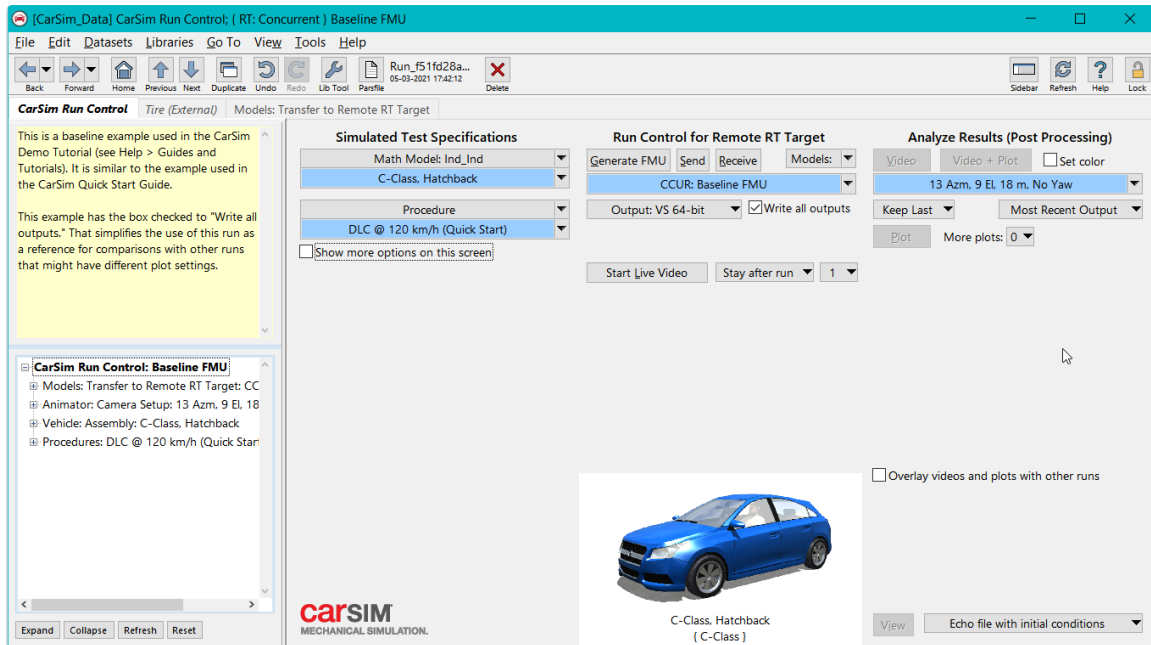

Figure 20. Run Control Baseline FMU example.
1. Start CarSim. From the **Run Control** screen, select **Datasets > RT: Concurrent > Baseline FMU** (Figure 20).